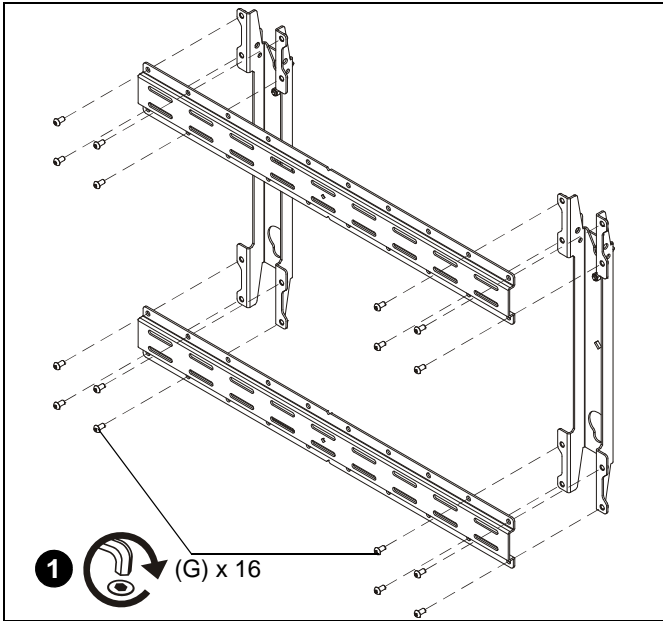

Figure 1
1. Attach two vertical brackets (B) to two horizontal brackets (A) using sixteen M8 x 16mm buttonhead cap screws (G). (See Figure 1)